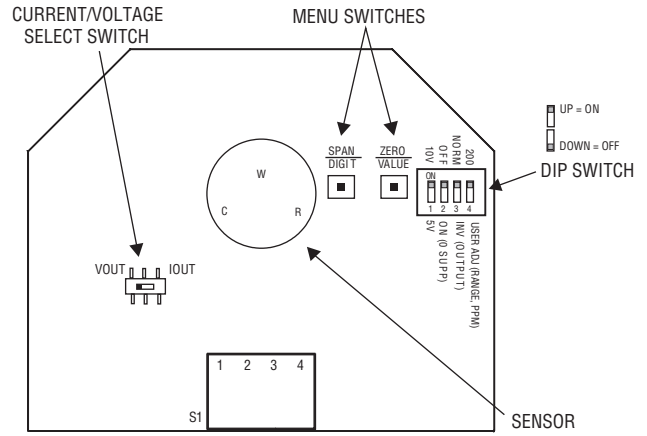

Figure 3
7. Set DIP SWITCH and IOUT/VOUT SWITCH as desired. Refer to Figure 3.
To access the current/voltage select switch, remove the cover of the unit. The current/voltage select switch is located on the circuit board as shown in Figure 3. Set the switch to "IOU" for current, "VOUT" for voltage.
To access the DIP SWITCH, remove the cover of the unit. The DIP SWITCH is located on the circuit board as shown in Figure 3.
1. Remove the cover plugs from the face of the unit and top cover. Locate the sensor, see Figure 3 – the sensor is mounted on three pin sockets. The circuit board is labeled either “CO SENSOR” or “NO₂ SENSOR” underneath the sensor.